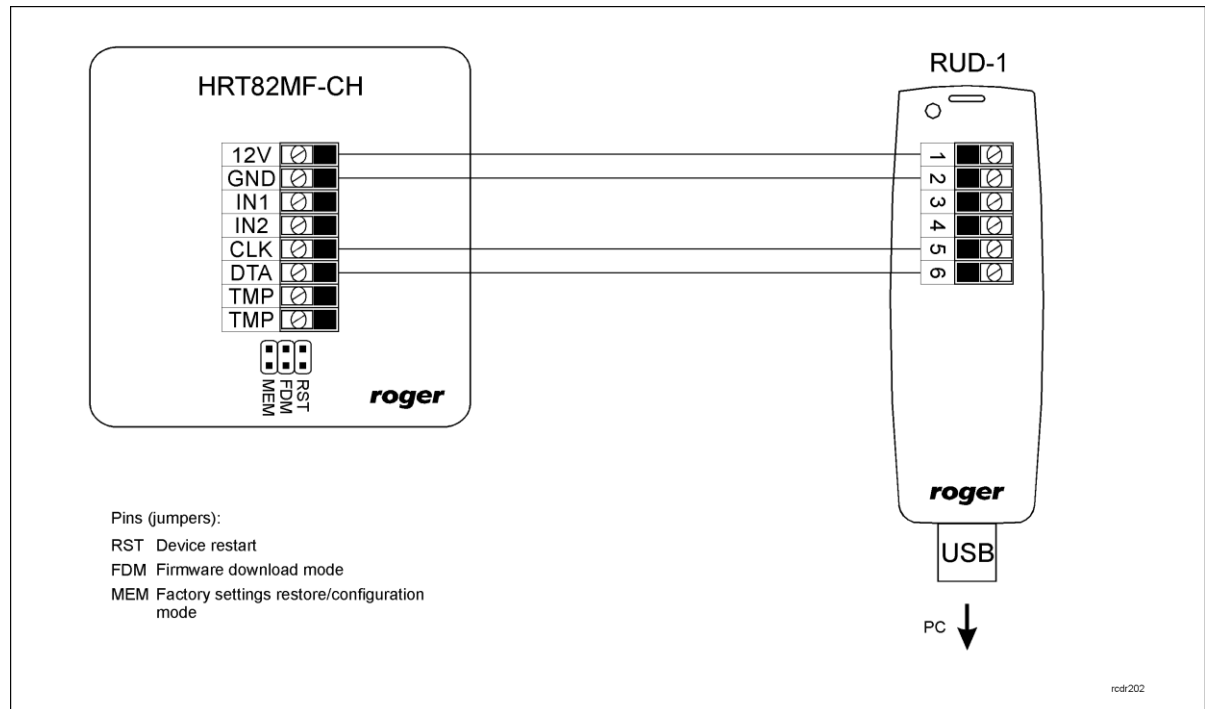

Fig. 5 HRT82MF-CH and RUD-1 connection
1. Connect device to RUD-1 communication interface according to fig. 5
5. In the opened window select device, firmware version, communication channel and serial port with connected RUD-1 – see fig. 5